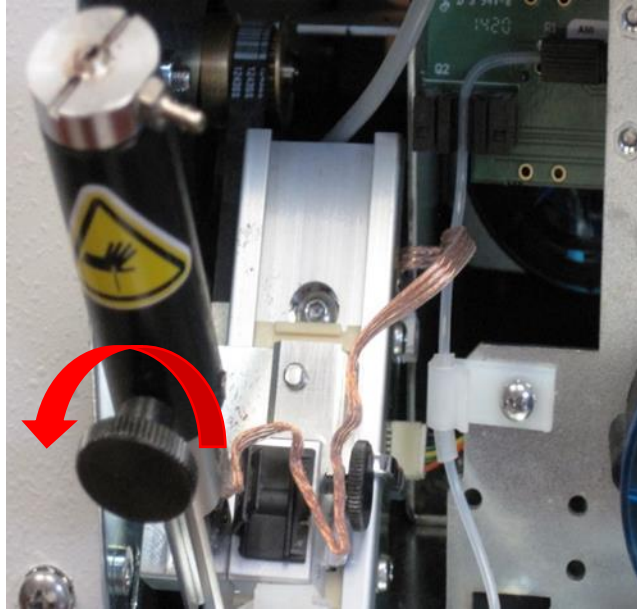

Figure 5
5. Remove the large Thumbscrew from the front of the Probe Tube. (Figure 5)